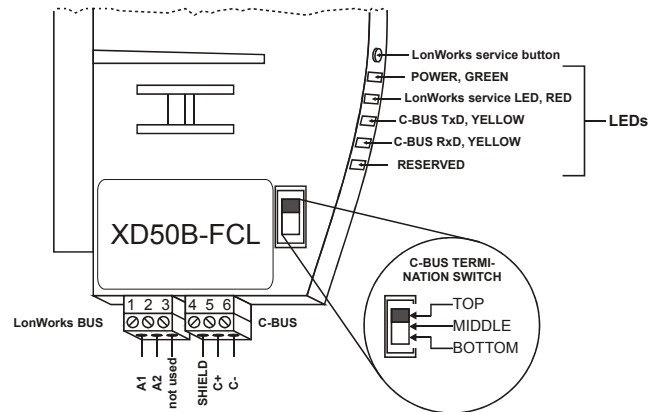

Fig. 35. C-Bus connection and LEDs (example)
C-Bus-capable application modules are equipped with a DIP switch (see Fig. 35) for the C-Bus to set the bus termination appropriate for the communication speed.
3. Connect the cable shield to C-Bus terminal 4 (Fig. 35).
4. Connect the C+ cable to C-Bus terminal 5 (Fig. 35).
5. Connect the C- cable to C-Bus terminal 6 (Fig. 35).
Excel 50 Controllers may be equipped with an application module (see Table 21) containing an FTT-10A Free Topology Twisted Pair Transceiver which allows communication with other device on a LONWORKS network. FTT-10A transceivers communicate at 78 Kbaud and provide transformer isolation so that the bus wiring does not have a polarity; that is, it is not important which of the two bus terminals are connected to each wire of the twisted pair. See also Fig. 35.